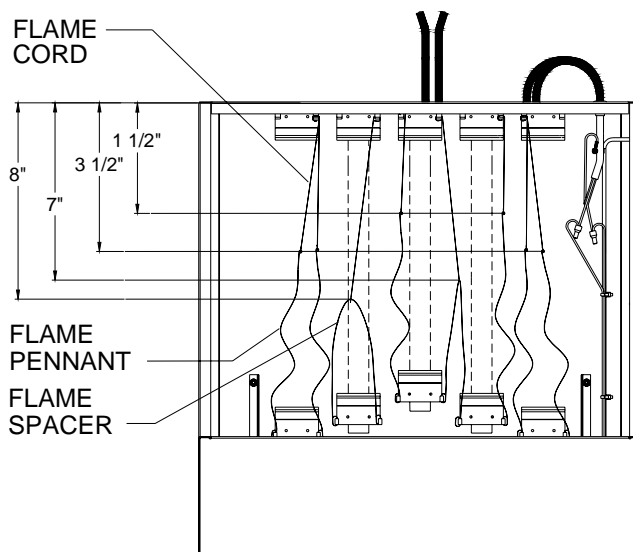

Figure 38 - Locating the Flame Pennants
1. Locate the affected flame pennant and slip the hem at the base of the flame pennant over the proper hanger bracket position. See **Figure 38** for proper location.
2. Pull the flame cord up to the proper hook location, use a slip knot to adjust the cord length and attach the cord to the hook. See **Figure 38** for proper cord length.